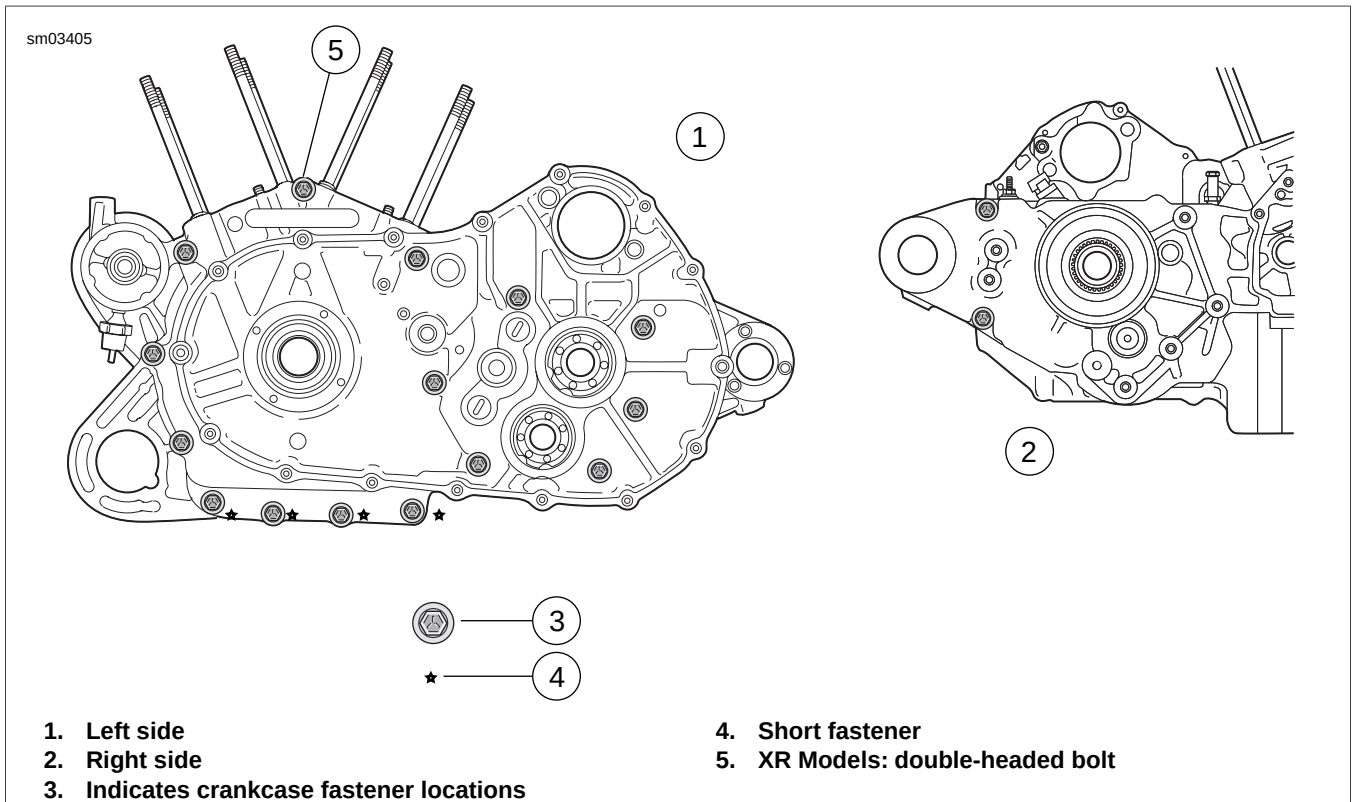

Figure 5-55. Crankcase Fasteners
13. See Figure 5-55. Remove 15 crankcase fasteners (11 long and four short) from left side of crankcase assembly. Remove two fasteners from right side of crankcase assembly.